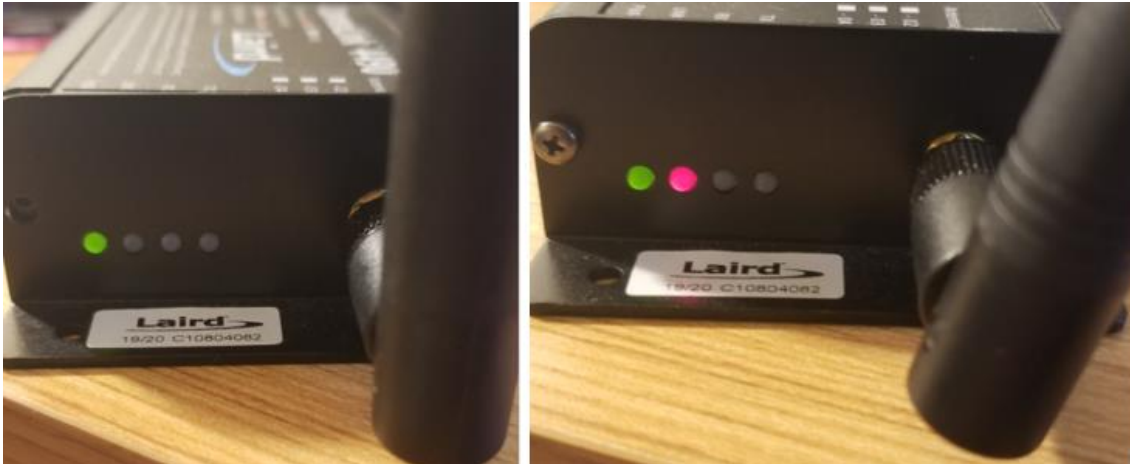

Figure 10: LEDs (Red Link LED only lights when in a connection)
- Connect the Power Adapter to power on the radio and verify LEDs as shown in Figure 10. Green Power LED (Red Link LED lights only when connected to a peer and passing data)